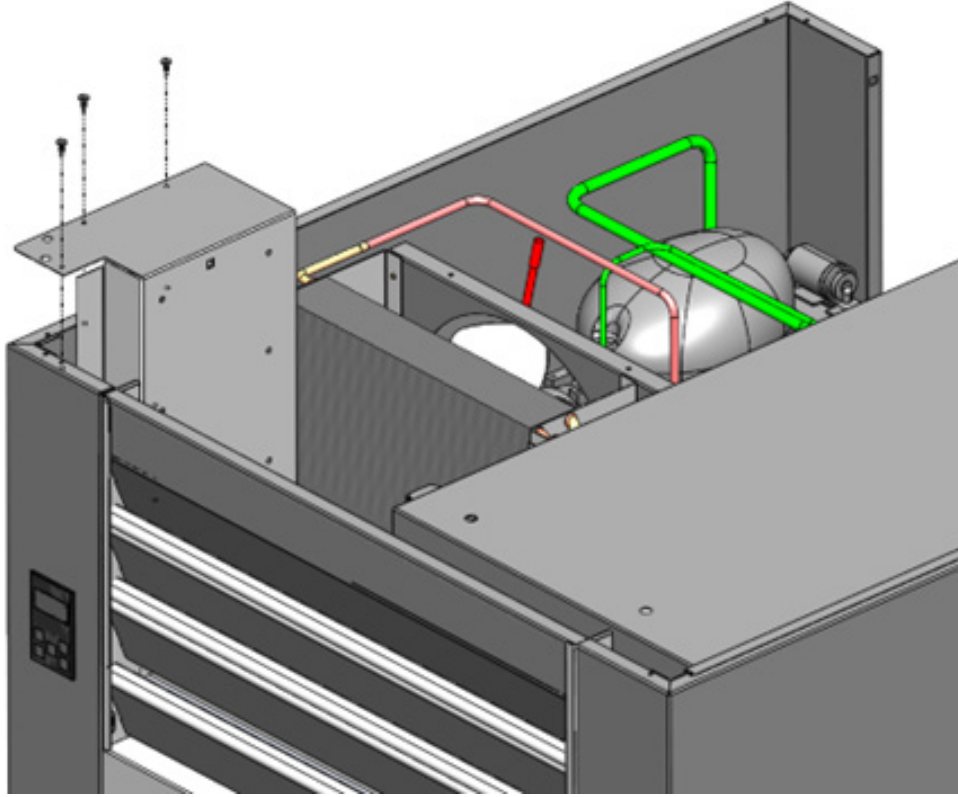

Fig. 4.12.3 POWER MODULE ACCESS (CONTROL BOARD)
Use a #2 Phillips screwdriver to remove (3) screws (see figure 4.12.3) and lift on bracket.